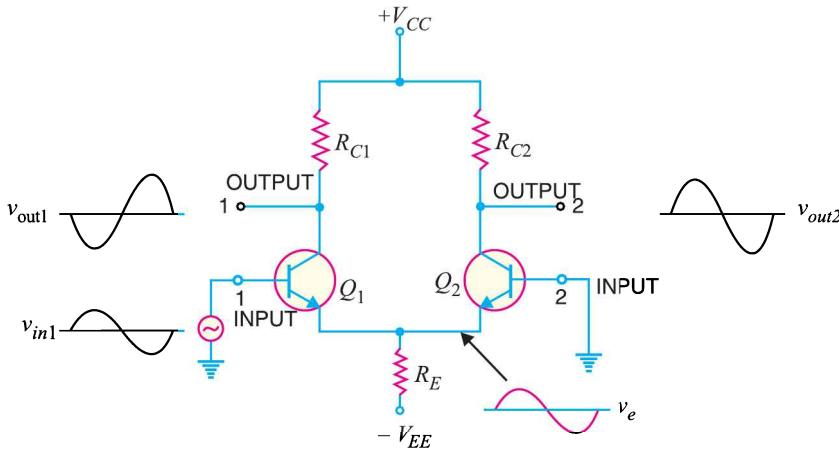

Fig. 25.5
- (i) Suppose the signal is applied to input 1 (i.e., base of transistor  $Q_1$ ) and input 2 (i.e., base of transistor  $Q_2$ ) is grounded as shown in Fig. 25.5. The transistor  $Q_1$  will act in two ways : as a common emitter amplifier and as a common collector amplifier. As a common emitter amplifier, the input signal to  $Q_1$  (input 1) will appear at output 1 (i.e., collector of  $Q_1$ ) as amplified inverted signal as shown in Fig. 25.5. As a common collector amplifier, the signal appears on the emitter of  $Q_1$  in phase with the input and only slightly smaller. Since the emitters of  $Q_1$  and  $Q_2$  are common, the
emitter signal becomes input to  $Q_2$ . Therefore,  $Q_2$  functions as a \*common base amplifier. As a result, the signal on the emitter of  $Q_2$  will be amplified and appears on output 2 (i.e., collector of  $Q_2$ ) in phase with the emitter signal and hence in phase with the input signal (signal at input 1). This is illustrated in Fig. 25.5.
- (a) When signal is applied to input 1 (i.e., base of transistor  $Q_1$  in Fig. 25.5), an inverted, amplified signal appears at output 1 and non-inverted, amplified signal appears at output 2. Reverse happens when signal is applied to input 2 and input 1 is grounded.